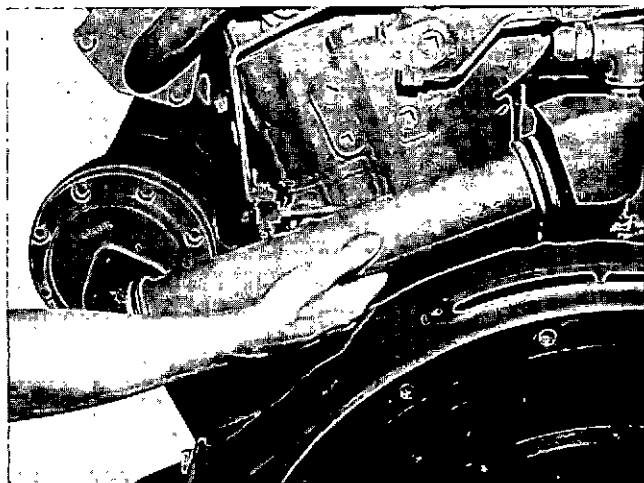

Fig. 14-1-104, V414182. Install water tube from cooler to block connection
2. Insert water outlet tube in block connection. Fig. 14-1-104.